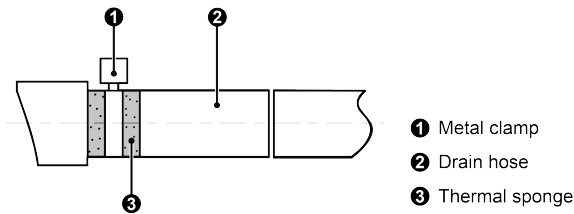

Fig.4.3.2
- (1) Insert the drain hose into the drain hole and tighten it with tapes, as shown in Fig.4.3.2. Model with water pump will be provided with drain hose, while other models please prepare the drain hose by yourself.
- (2) Tighten the pipe clamp to make the distance between screw cap and hose less than 4mm.